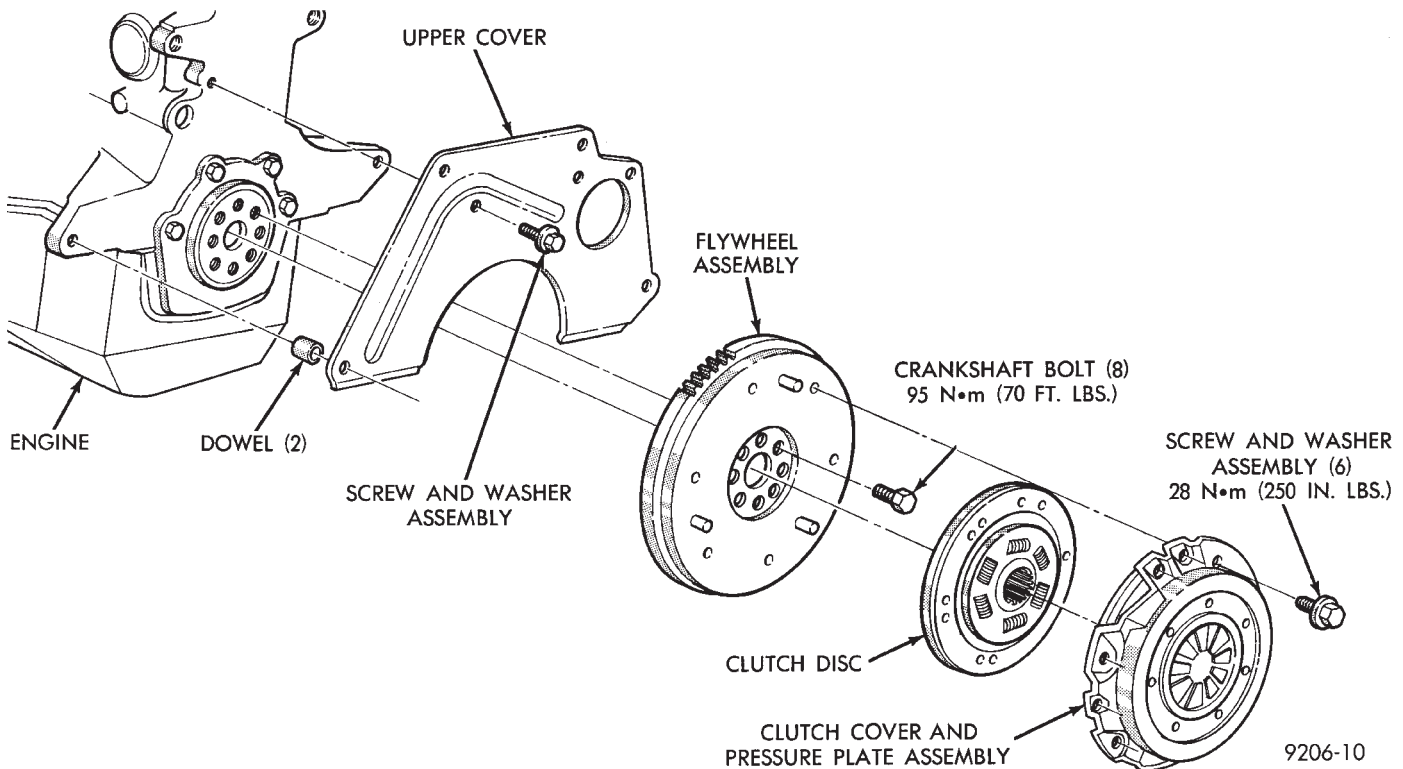

Fig. 3 Manual Transaxle Clutch
(1) Remove transaxle. See Group 21, Manual Transaxle, for procedure.
(2) Mark clutch cover and flywheel, to maintain their same relative positions when installing clutch assembly (Fig. 3).